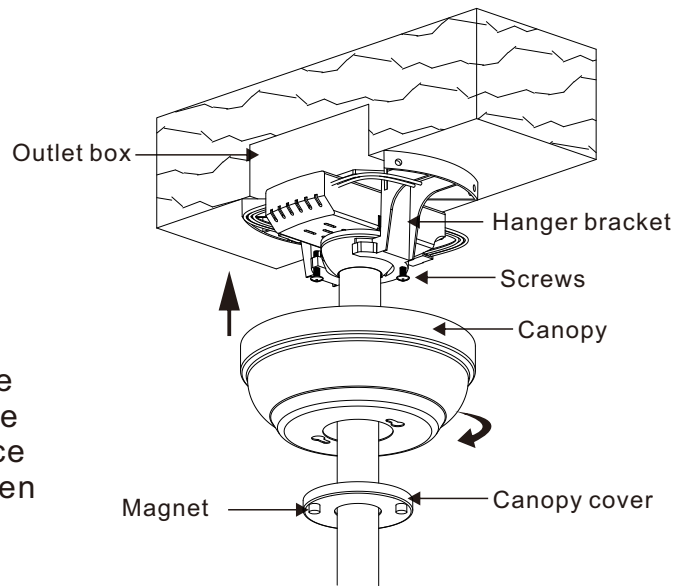

Figure 18
Step 2. Loosen the two screws on the bracket. Slide the canopy up to hanger bracket and place the key hole on the canopy over the screw on the hanger bracket, turn canopy until it locks in place at the narrow section of the key holes then tighten the two screws.(Fig.18)
Step 4. Raise light shade up against light kit plate and secure it to the fan by turning the light shade clockwise until snug. (DO NOT OVERTIGHTEN). (Fig.18)